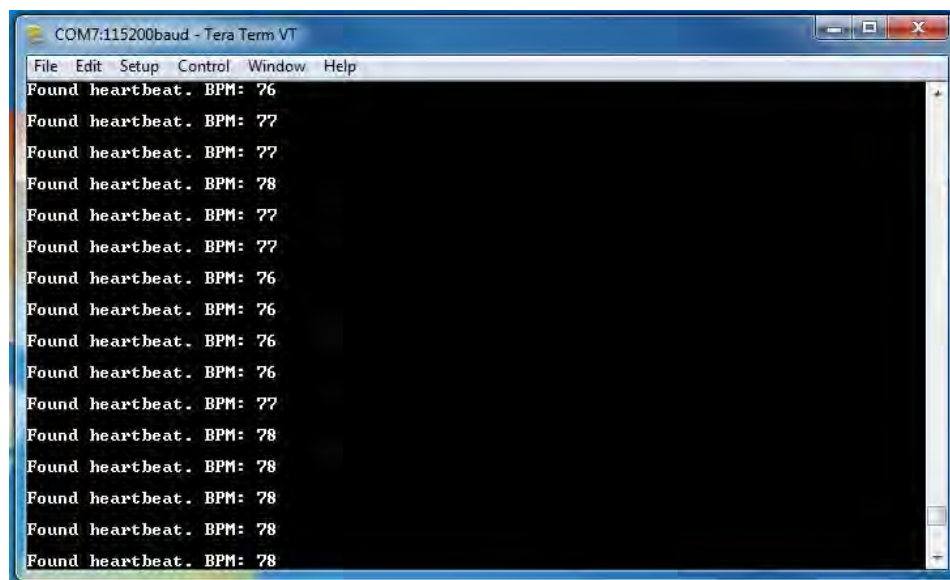

Fig 8. Pulse sensor software example output
6. When attaching the pulse sensor to your finger or your ear, the MCU should print the detected beats per minute to the terminal emulator. See Figure 8.